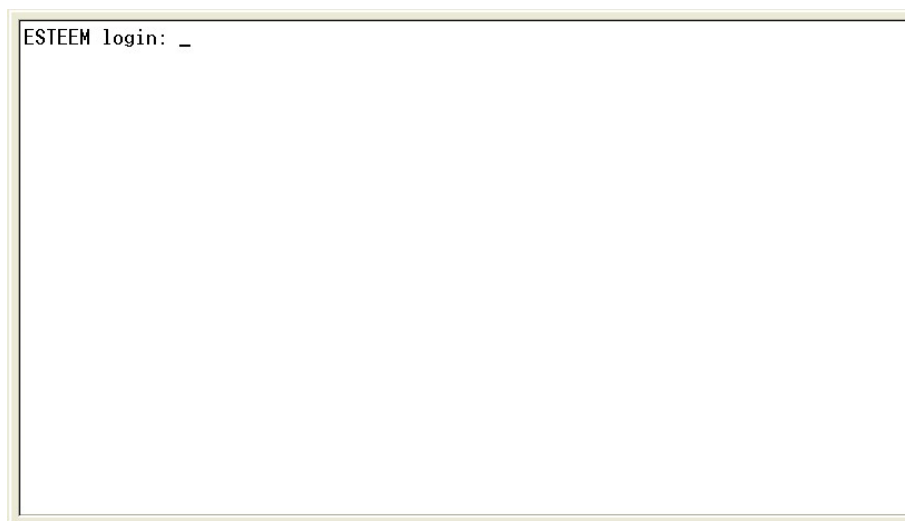

Figure 1: RS-232 Port Log-in Screen
3. Press the Enter key and you will be at the Configuration Menu Horizon login prompt. See Figure 1.